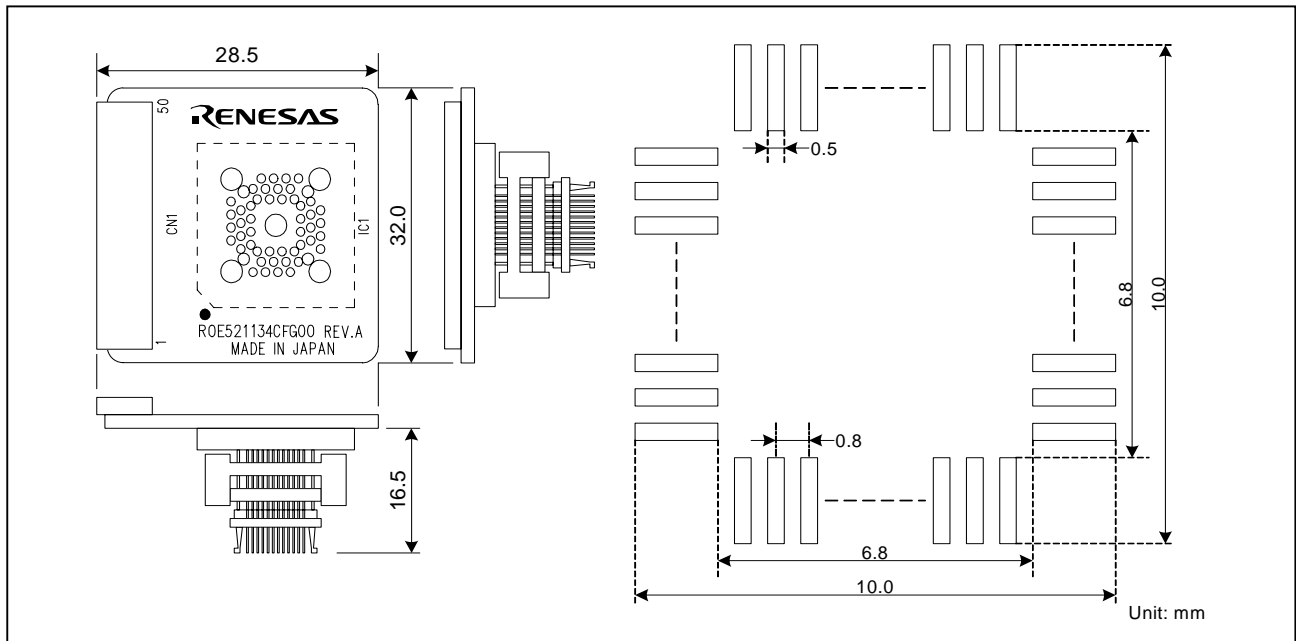

Figure 4 External dimensions and a sample foot pattern of the R0E521134CFG00
6. External Dimensions and a Sample Foot Pattern (See Figure 4)